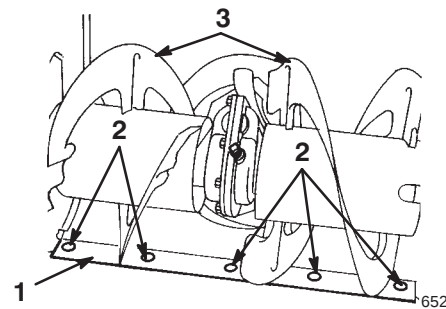

Figure 21
1. Skid (2)
2. Flange nuts (4)
3. Auger side plate (2)
6. Support the *auger blades* so that they are 1/8 inch (3 millimeters) off the ground (Fig. 21).
8. To adjust the scraper, loosen the five mounting screws (Fig. 21), level the scraper, and tighten the mounting screws.